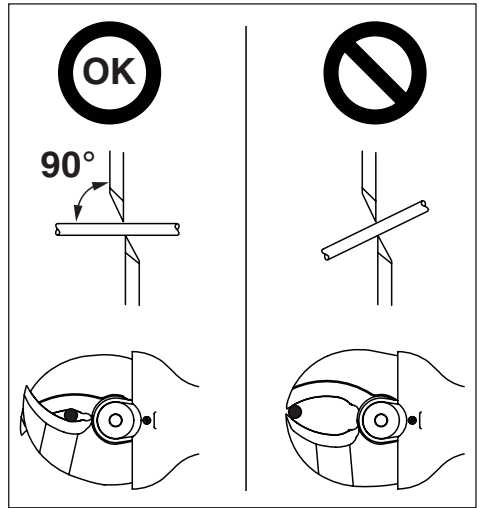

Figure 4, Positioning Material in the Blades
Position the material to be cut between the cutter blades so that it is perpendicular to the blade axis, as shown in Figure 4. This will provide the best quality cut.
2. Place the material to be cut between the blades. Be sure that it is perpendicular to the blade axis, as shown in Figure 4. Refer to instructions in Section 7.5 for additional information.